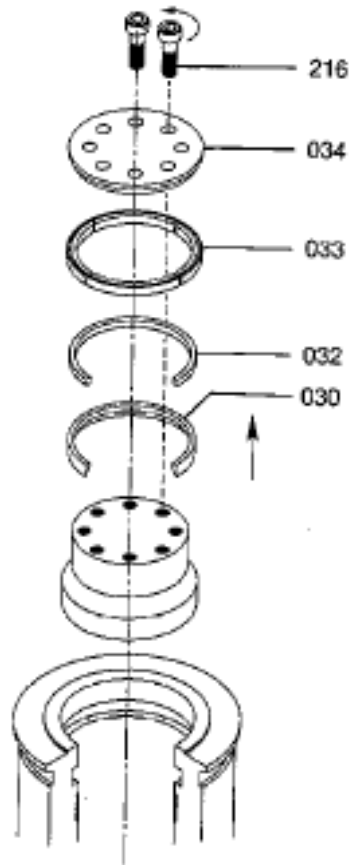

FIGURE 17
5.2 Pressure Seal Bonnet Valves (Fig 17)